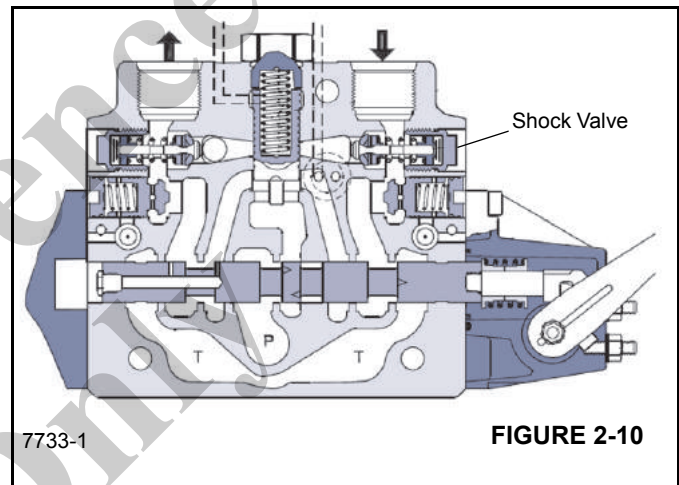

FIGURE 2-10
- a. For the Boom, Tele and Hoist sections reference (Figure 2-10). These sections have shock valves on each side of the valve section - directly opposite of each other, with shock valves facing horizontally.